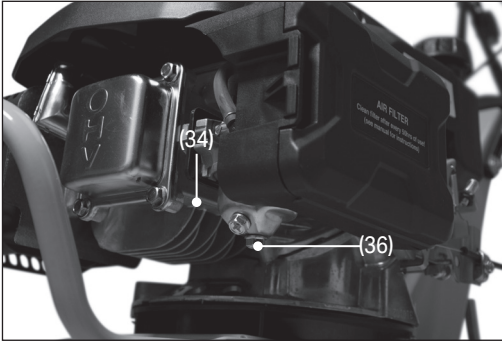

Fig. 33
1. Loosen the float bowl drain nut (34) (Fig. 33).
3. Loosen and remove the float bowl lock nut (36) and washer.